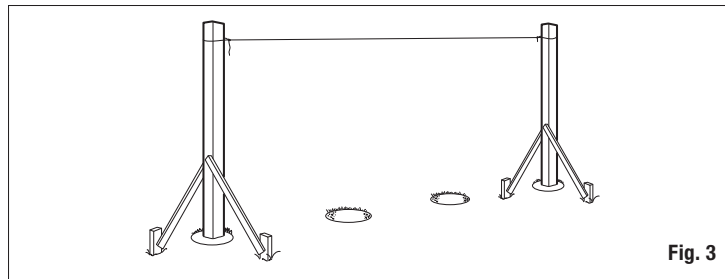

Fig. 3
- Install end and corner posts first. Tie a string between the posts along the fence line. This establishes a reference, ensuring the posts are properly aligned (fig. 3).